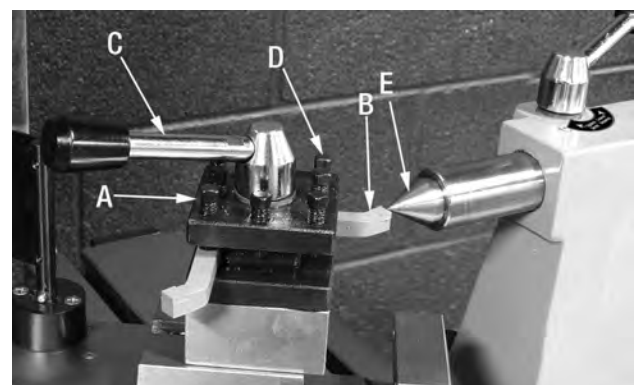

FIGURE 13
This machine comes with a turret tool post (A) Fig.13 which is designed to accept up to four 1/2" cutter tools (B).
1. When more than one tool is secured into the tool post, changing from one tool to another is done quickly by loosening the lock lever (C) Fig.13 and rotating the tool post to the desired cutter. Retighten lock lever once adjustment is made.
2. Secure the cutter with at least two of the fixing bolts (D) on the tool post.
3. Make sure the top of the cutter is at the lathe spindle centre line or just below. The tailstock dead center (E) can be used as a reference, as shown in Fig13.